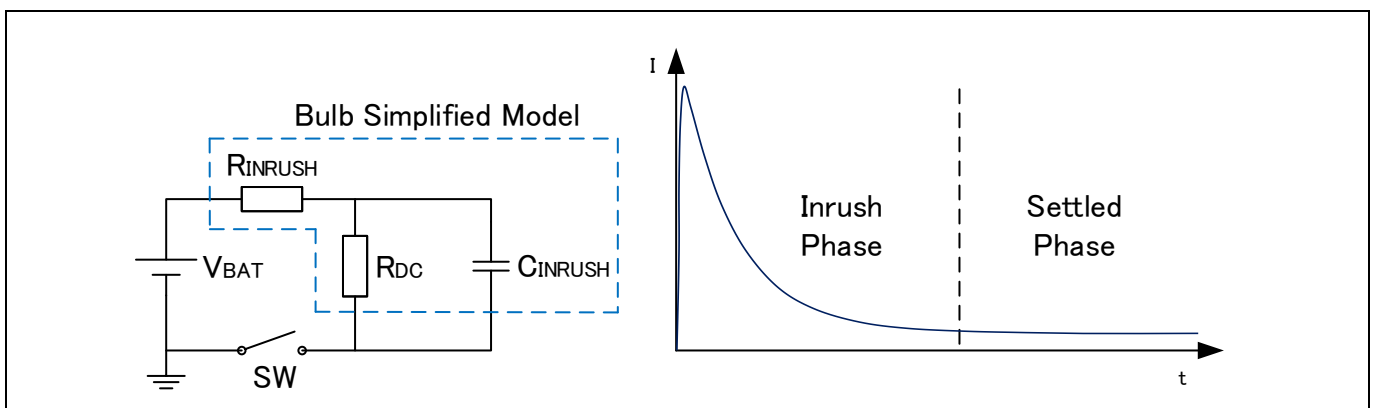

Figure 1 Equivalent simplified model of a bulb and simulated current profile
The inrush current of a bulb resembles the initial response of a RC network. **Figure 1** provides circuit and current timing characteristic of an RC circuit, assuming an ideal supply (V_{BAT}) and a switch (SW).
Figure 1 shows the typical inrush phenomenon. The set-up is ideal, meaning there's none or negligible parasitic impedance between the switch and GND, and almost no parasitic impedance between the bulb and the switch. The inrush current we see at the beginning of a switch ON event of a bulb is due to the fact that the filament is cold and the resistance is low, therefore consuming a lot of power. As the filament temperature raises its resistance increases until it reaches a temperature stable point.